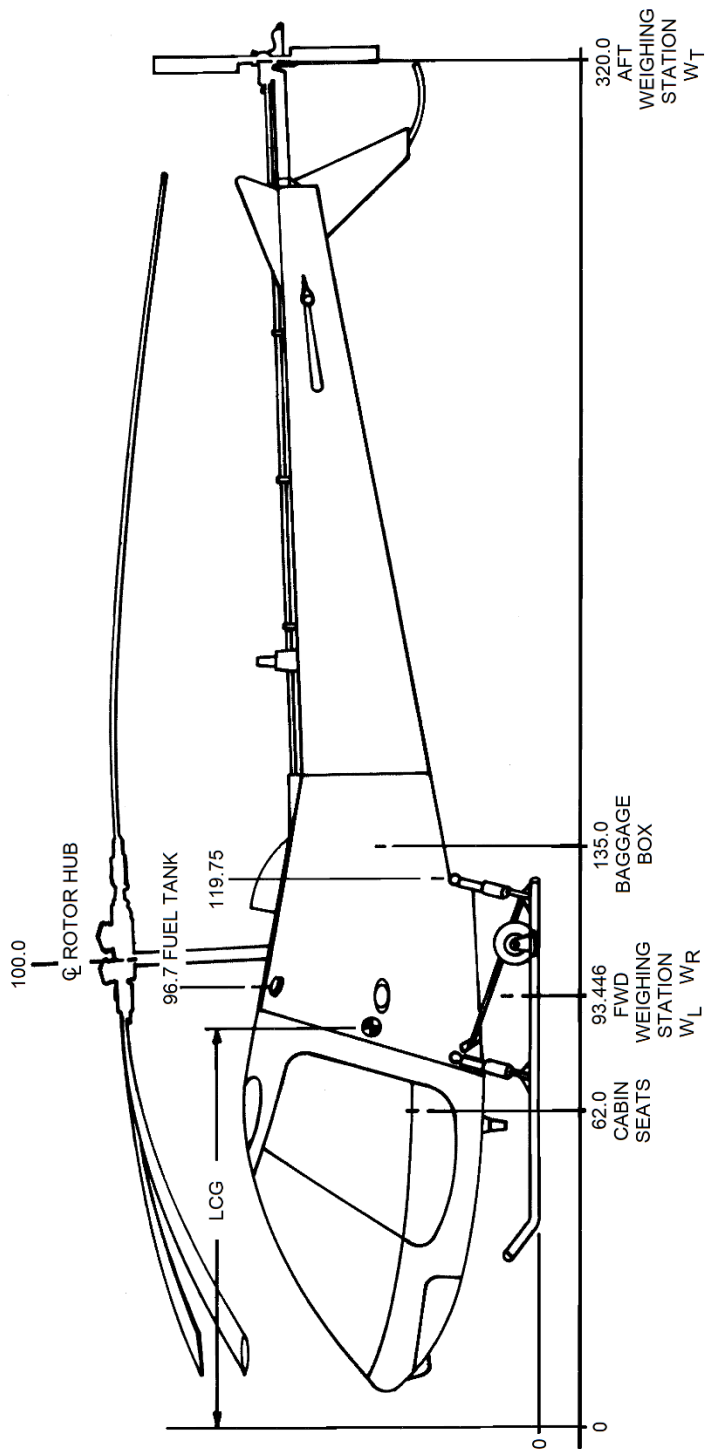

Figure 6.4
9. Locate the 100 lb capacity scale at the center line of the tail rotor output shaft (see Figure 6.4).